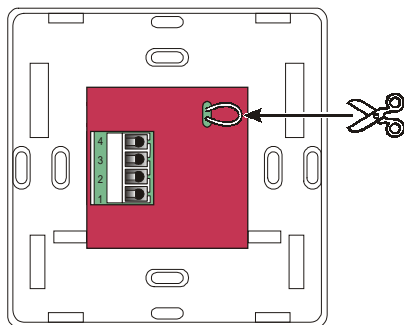

Fig. 3 - Se ponticello tagliato: RA=470 Ω
It is possible to change the Alarm Resistance (RA) of the MCP900/*CS versions, from 270Ω to 470Ω , by cutting the jumper (see Fig. 3 and 5)